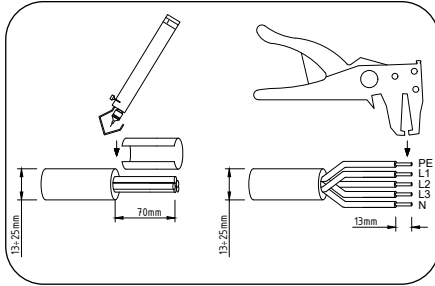
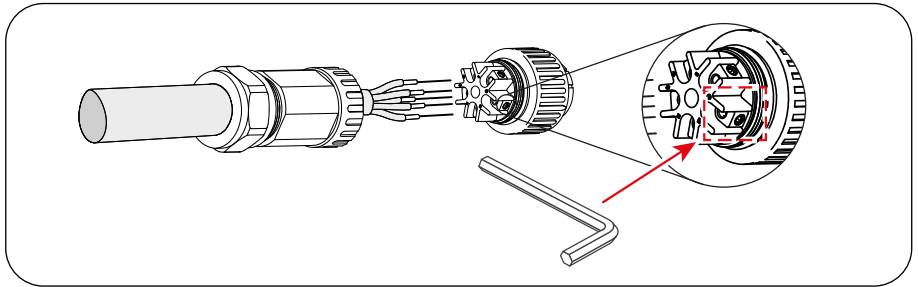

Figura 19 - Stripped and bared wire
Figura 21 - Cable connection
- Stripped the insulation sleeve of cable for 70 mm, up to discover the connector with copper core for 13mm (Figura 19). Pass the cable through the nut and the sleeve of the socket element, insert corresponding terminals and tighten with allen wrench. Torque is 1,5-2,5 Nm (see Figura 21).
After insertion, tighten cable with 3,0 mm allen wrench (focus in dotted box, see Figura 21). **WARNING:** Allen screw is easy to drop off, don't screw out completely.